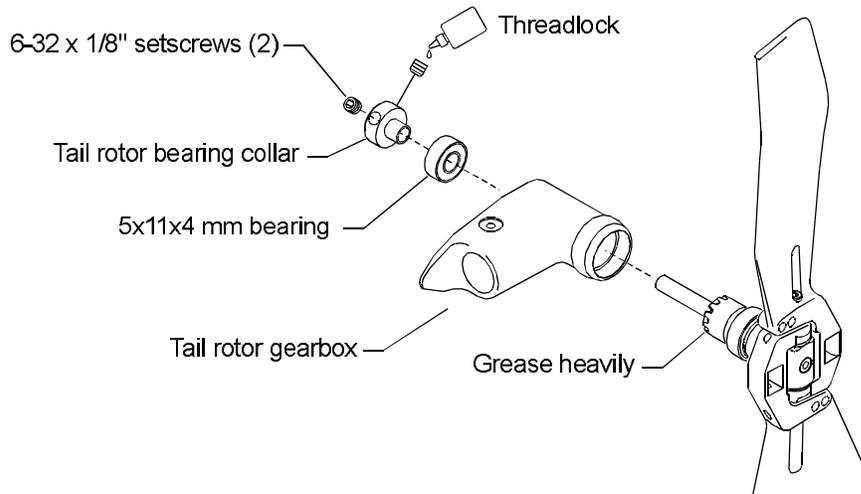

Figure 9-4.
- 11. Press a 5x11x4mm bearing and bearing collar into the tail rotor gearbox as shown in Fig. 9-4. Liberally apply *Lite Lube* grease to the shaft gear, and insert the shaft into the gearbox. **MAKE SURE BOTH BEARINGS ARE COMPLETELY SEATED.**